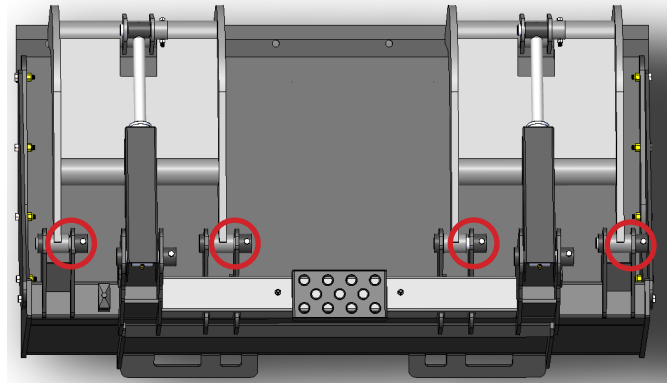

Figure 1
The Light Duty Grapple Buckets have four (4) grease points. These points are circled in Figure 1.